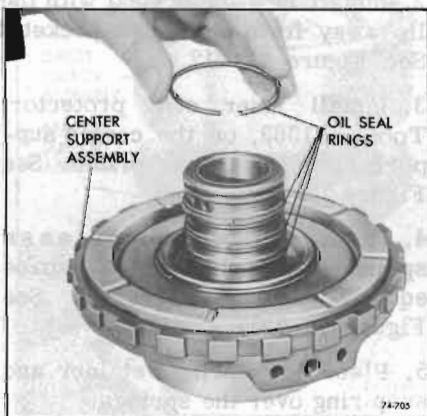

Figure 74-723
7. Install four (4) hook type oil rings. See Figure 74-723.